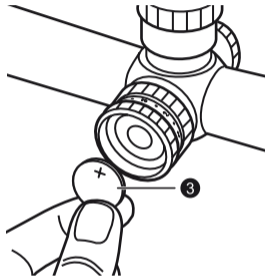

Fig. 3-2
- ② Insert one 3V lithium battery ③ into the chamber with the positive (+) side facing up (Fig. 3-2).
- ③ Put the cover back and turn it clockwise with the battery-chamber cover opener until the cover is firmly secured.